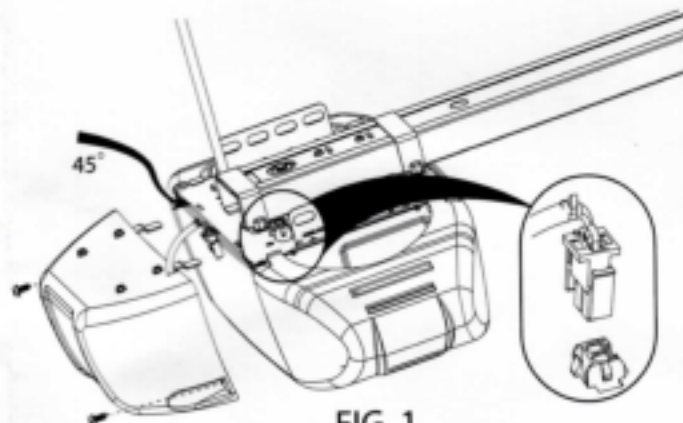

FIG. 1.
3. Unplug battery backup from harness connection. Fig. 1.
4. Remove both mounting screws from rear of battery backup. Fig. 1.
5. Detach battery backup from back of opener by tilting the BBU approximately 45 degrees and lifting up towards the ceiling. Fig. 1.